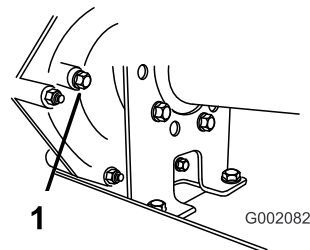

Figure 46
2. Remove the bolt from the level indicating hole (Figure 46).